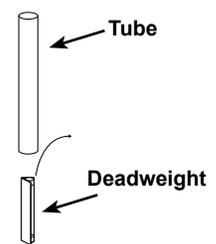

FIGURE 24 (LP Models)
- 16b. For LP Models: remove deadweight from main vent assembly on rear of fryer by lifting tube. Deadweight is under tube. (See Figure 24). Rinse deadweight and tube (inside and out) with hot water at sink. Towel dry. Reassemble Deadweight and tube. Check O ring where vent tube connects.